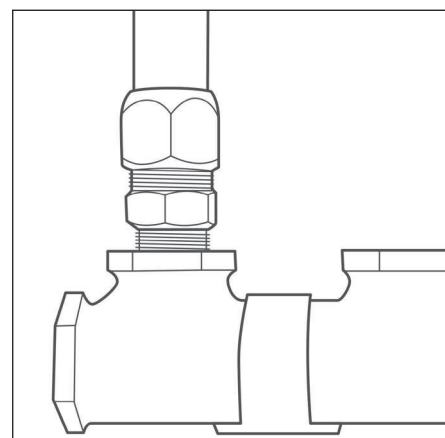

Figure: 4-8
- PIPE TO FITTING CONNECTION:** This step applies to straight and coupling fittings. Loosen the nut on the fitting 1 to 1-1/2 turns. Straighten the pipe end and insert it into the back of the fitting until it snaps into place (**Figure 4-8**). While holding the tubing firmly into the fitting, tighten the nut by hand to capture the first corrugation. A gradual resistance to tightening by hand will be felt if inserted correctly. If a dead stop is felt, the pipe is not inserted properly, back off the nut, make sure the pipe is in completely, straighten and re-tighten by hand to confirm proper fit. Check to make sure the tubing is captured by pulling on the tubing. If the tubing has been captured, use adjustable wrenches and continue to tighten the nut to the specified torque value or until resistance has greatly increased. **Table 4-5** When the nut is fully tightened leak tight, there should be no more than 1/2 to 1 thread showing behind the nut.